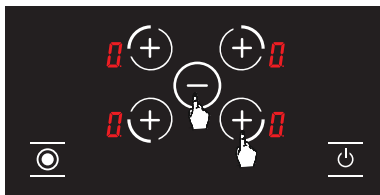

Figure 26
- Press the front burner selection button **+** and the minus button **-** at the same time (see fig. 26), and you will hear a short warning signal. Then take your fingers off the hob's control panel.